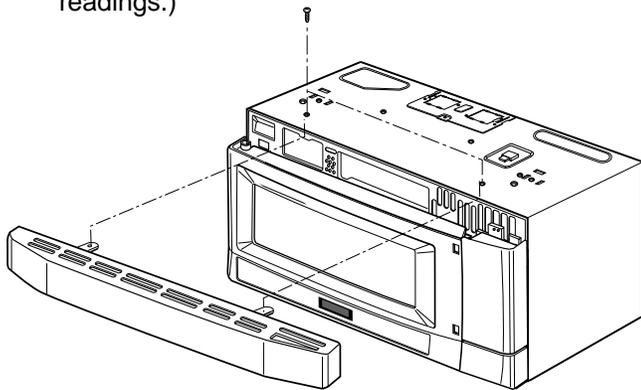
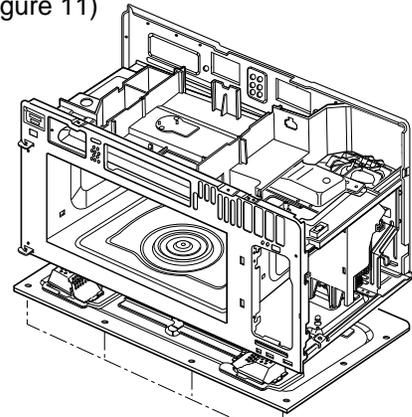
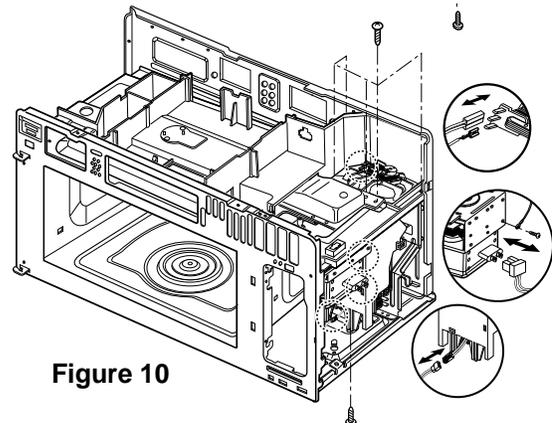
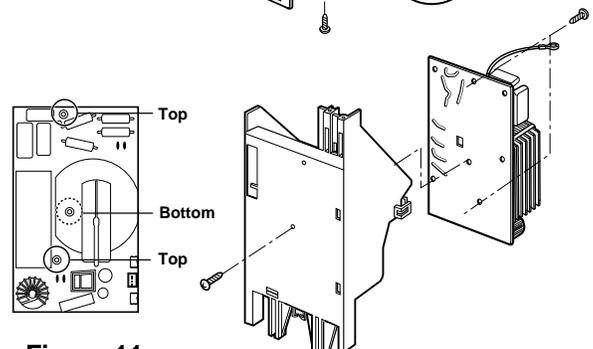

Figure 7
Figure 9
Figure 10
Figure 11
(Figures 7 Through 8)
- (1) Remove the vent grille by loosening two screws. (Figure 7)
- (2) Remove the outcase. See page 7-5.
- (3) Remove four tap tite screws securing the magnetron to the wave guide.
- (4) Remove the magnetron VERY CAREFULLY.
(Figures 9 Through 11)
- (3) Remove the base plate by loosening four screws. (Figure 9)
- (4) Disconnect two leadwires of the fan motor assembly.
- (5) Disconnect the leadwire of the inverter PCB and the H.V. cable of the magnetron.
- (6) Remove the earth wire screw.
- (7) Remove three screws securing to duct assembly and two screws securing to fan guide. (Figure 10)
- (8) Remove a screw securing to inverter module assembly.
- (9) Push the inverter guide hook and get out the inverter module assembly lifting up duct assembly.
- (10) Open the upper inverter guide.
- (11) Remove three screws securing to PCB and pull out PCB. (Figure 11)